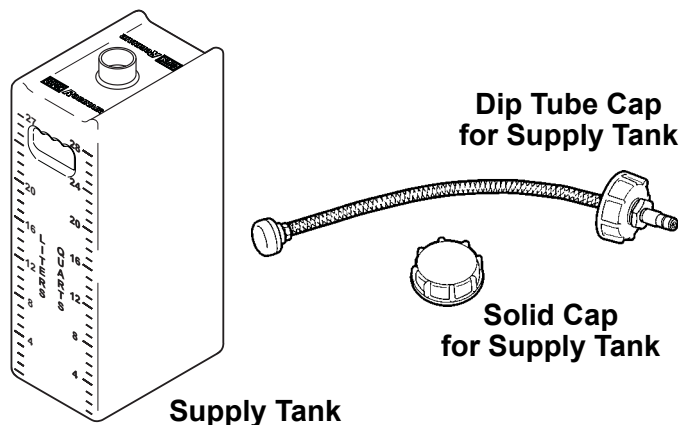

Figure 2
1. Fill one supply tank with new coolant. Install the dip tube cap on the tank. See Figure 2.